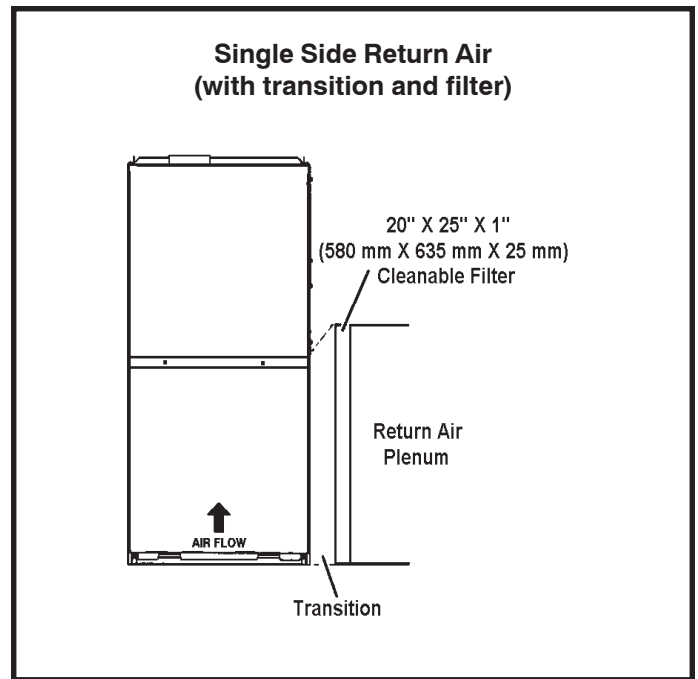

Figure 9
1. **Single side return air with transition to accommodate 20 x 25 x 1 in. (508 x 635 x 25 mm) cleanable air filter.** (Required to maintain proper air velocity.) See Figure 9.